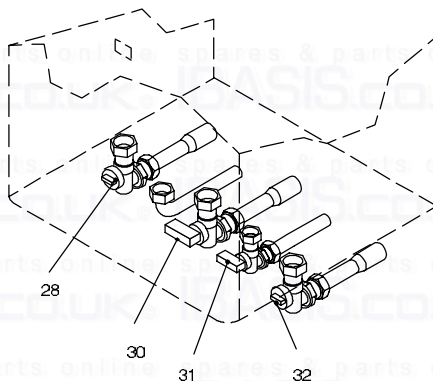

fig. 6.3
- 1 Turn off the c/w inlet cock (31 in fig. 6.3) and turn on the "utilities" cocks.
- 1 Turn off the c.h. cocks (28, 32 in fig. 6.3).